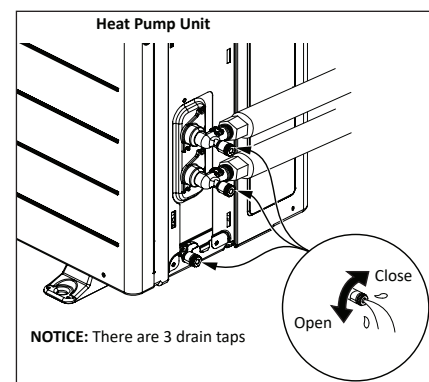

Figure 37 - Purge all air from the unit.
**NOTICE:** Amount of time for the air to fully purge could vary due to inlet line length and height differences. See Figure 37.